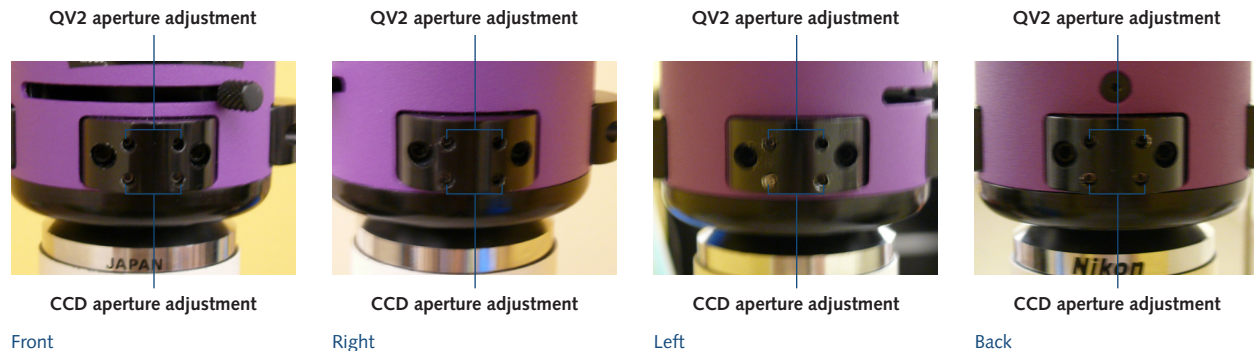
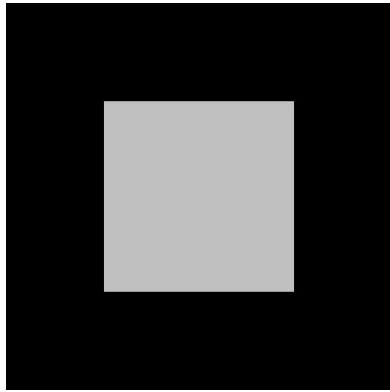

Figure 6. Aperture adjustment panels.
Figure 7. The correct positioning of the QV2 aperture blades.
9. Place the system in Bypass Mode and have the camera displaying a live preview image. Starting with the “front” aperture adjustment panel (**Figure 6**) use the supplied 0.05" hex key and the CCD aperture adjustment screws to adjust the position of the front CCD aperture blade so that it is just at the top of the field of view and then adjust it so it is just out of the field.
- Now use the aperture screws on the left and right aperture adjustment panels (**Figure 6**) to adjust the location of the aperture edges. The resultant image should look like **Figure 7**. *It is very important that you execute this step in a highly precise manner.*